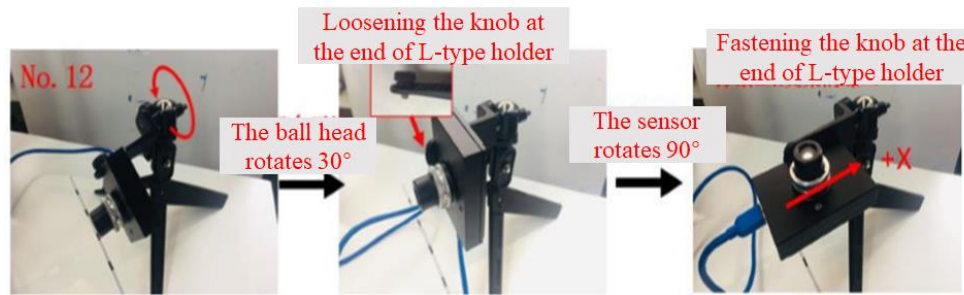

Fig 2-4
- vi. When it comes to No.= 13, the orientation should be adjusted by a large margin as shown in Fig 2-4 where X-axis is vertical to the south-north direction.